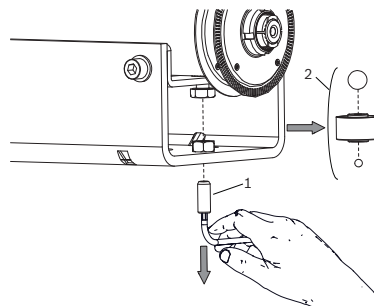

Fig. 13:
8. Unscrew position nut (fig.13, pos.1);